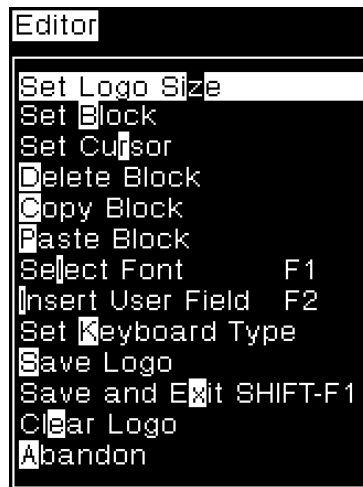

Figure 5-32: Set Logo Size Option
- 2 Select the *Set Logo Size* option using the  arrow key (Figure 5-32).